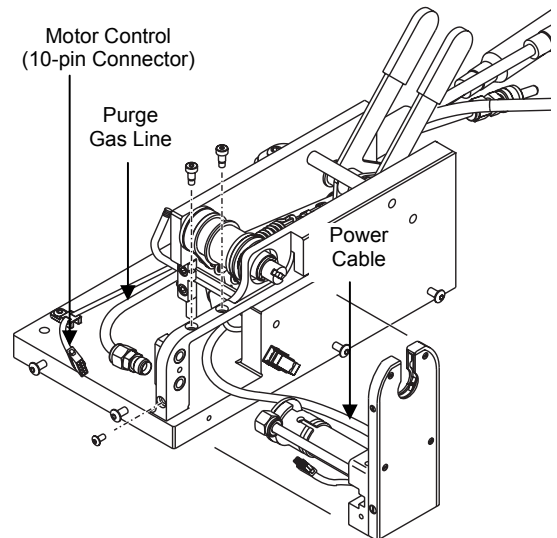

Figure 44 *Removing the Weld Head Assembly*
17. Pull the weld head assembly straight out from the base to access the power cable. See Figure 44.